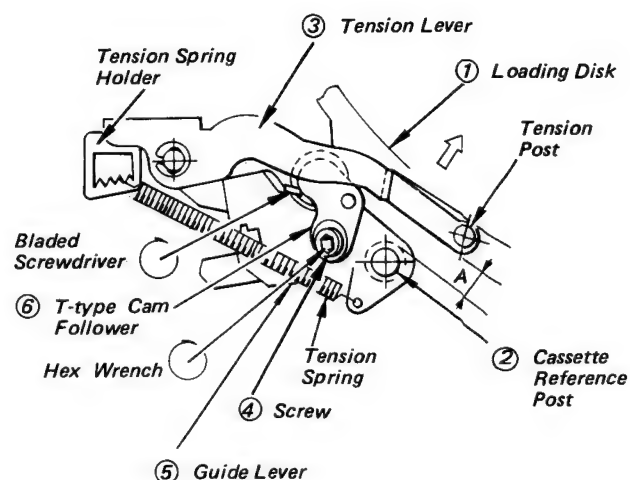

Fig. 5-87 Tension Lever Position Adjustment at Unloading End
### 28-1. Checking and Adjusting the Tension Lever Position at the Unloading End (Fig. 5-87)
2. Press the EJECT button to set the loading disk ① in the unloading state.
3. Make certain that the clearance A between the cassette reference post ② and tension lever ③ is 5.5 to 7 mm (see Fig. 5-87).